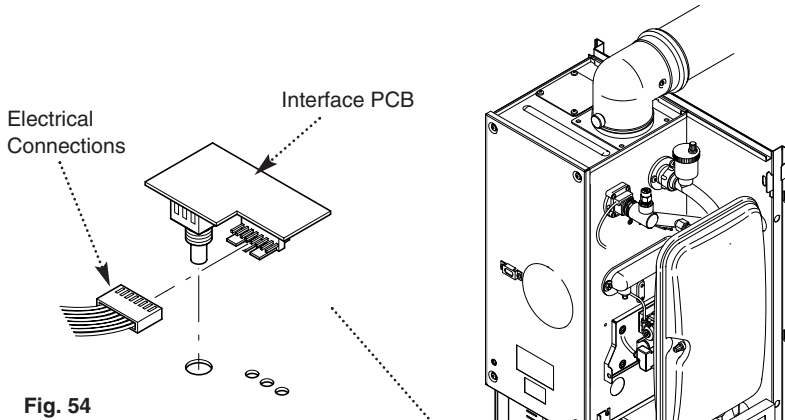

Fig. 54
2. Lift the PCB from the facia box and remove the electrical connections (Fig. 54).